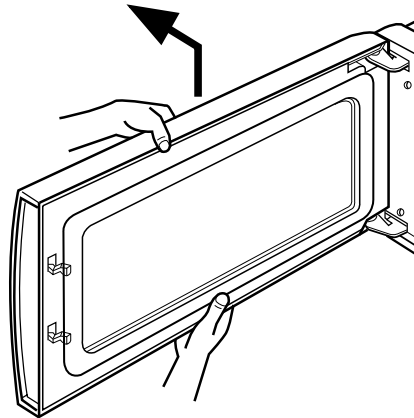

Figure 16
F. REMOVING DOOR (Figure 16)
- (1) Remove the vent grille by two screws securing it to the outcase loosening.
- (2) Lift up and draw the door.